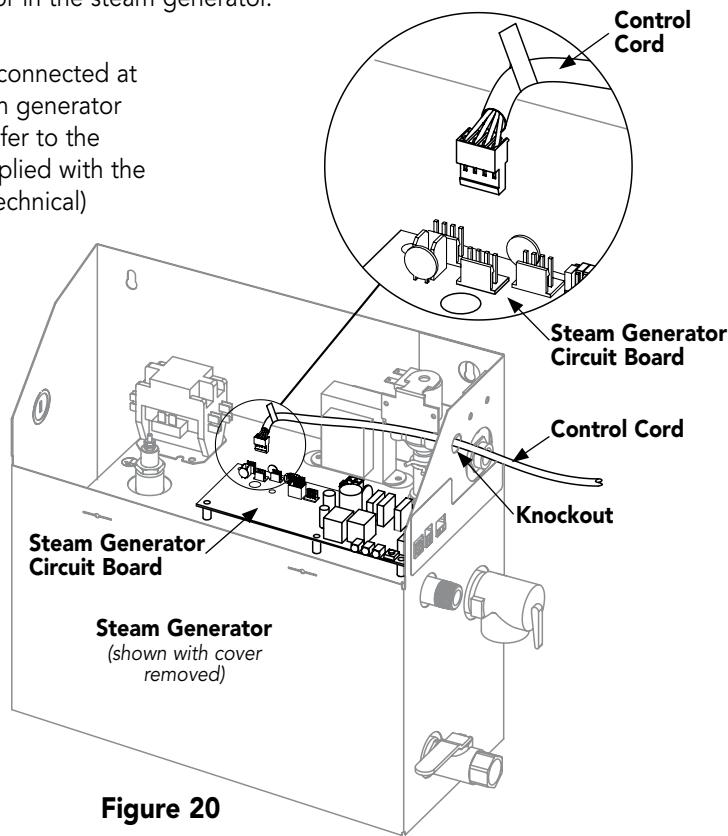

Figure 20
2. Connect the controller cord directly to the steam generator's circuit board, Figure 20.
2. Connect the accessories' controller cord directly to the steam generator's circuit board (Figure 20).